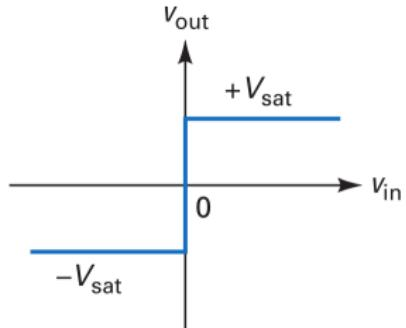

Figure 2: Input/output response
- ▶ Figure 2 shows the input-output response of a zero-crossing detector.